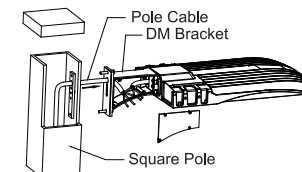

Figure 7
3. Let the wire from the lamp pole go through the hole of pole and go into direct bracket. (Figure 7)